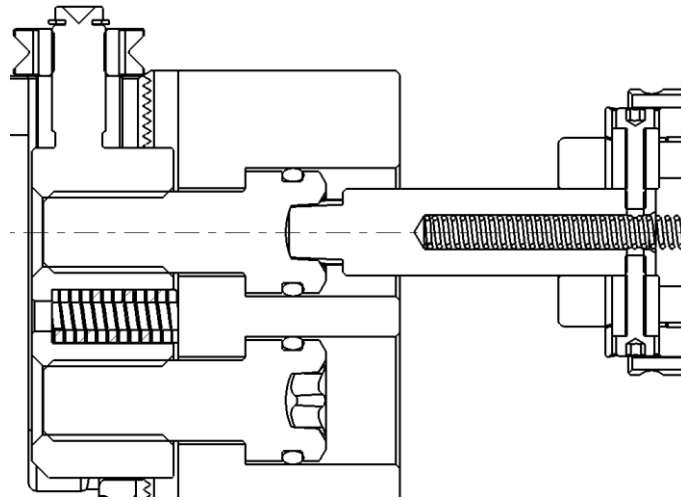

Figure 31
- ③ Insert the wrench in the mounting bolt hole (Figure 31).